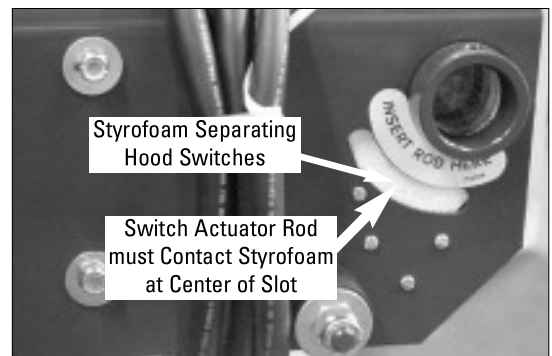

Figure 6 - Slot on the Hood Bracket
10. Next, install the hood assembly to the hood bracket. Carefully line up the switch actuator rod so that it contacts the Styrofoam in the middle of the slot and remains centered as the stationary hood bar is pushed in. As the stationary hood bar is pushed in, the actuator rod must push the Styrofoam in. Refer to figure 6. Be sure the Styrofoam is pushed clear. If not, use a small screwdriver to push it in and out of the way.